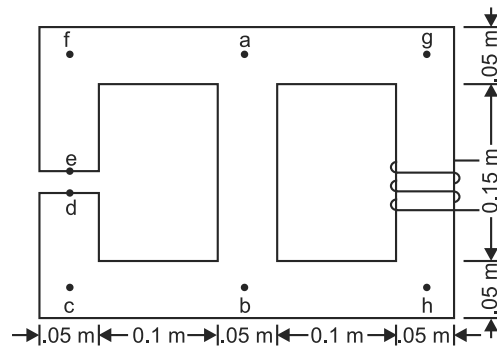

Fig. 8.18
**Example 8.17.** A magnetic circuit is shown in Fig. 8.18. It is made of cast steel 0.05 m thick. The length of air gap is 0.003 m. Find the m.m.f. to establish a flux of  $5 \times 10^{-4}$  Wb in the air gap. The relative permeability for the material is 800.